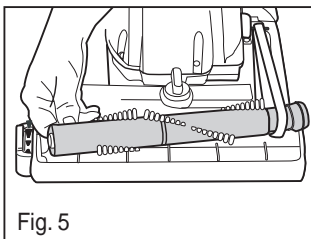

Fig. 5
- 5) Insert left end of brush roll first. Make sure square on brush roll cap is in place. Pull right side of brush roll to stretch belt. Secure right end cap into base (Fig. 5).